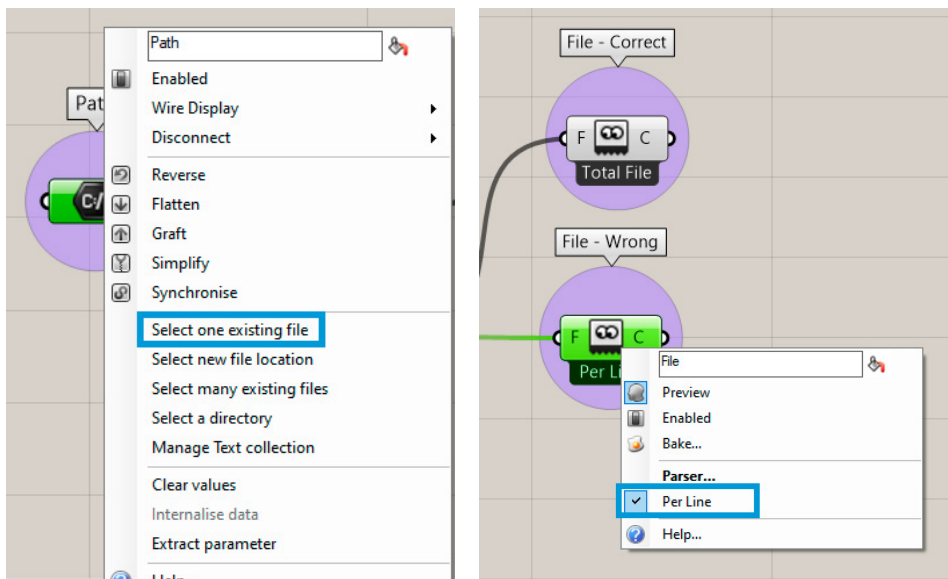
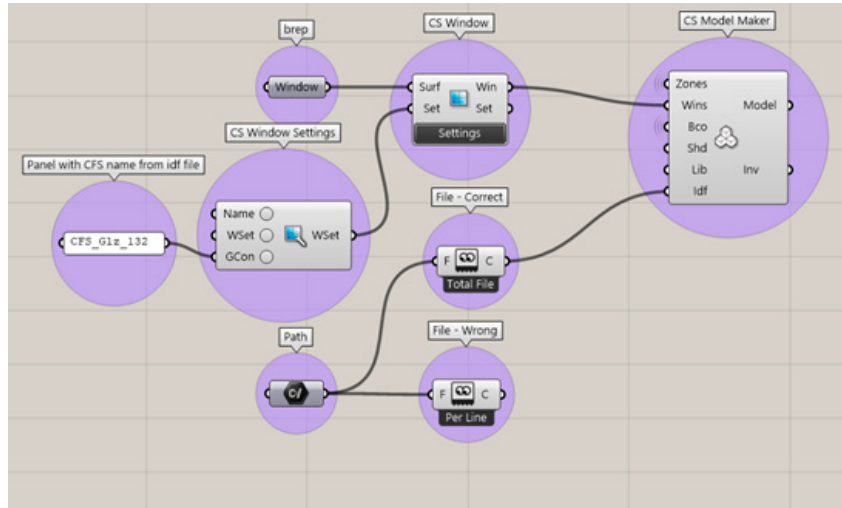

Figure 5 Left: Right click on "path" and select "Select one existing file".
Figure 6 Connect window and .idf file to the "CS Model Maker" component
Step 5 Connect your zone and boundary conditions with the recently made "CS Window" to the component "CS Model Maker" (See figure 6). Add the two components "File" and "Path" to your canvas. Set the path to the idf file you wish to simulate (the same in which you found the CFS name) by right clicking on the component and selecting "Select one existing file" (See figure 5 left). Then right click on the "File" component and uncheck "Per line", the component should now write "Total File" below (See figure 5 right). It is **important that you uncheck "Per line" before connecting it to anything, to avoid the script from crashing**. Connect the path to file and the file to the idf input in the "CS Model Maker" component (See figure 6).